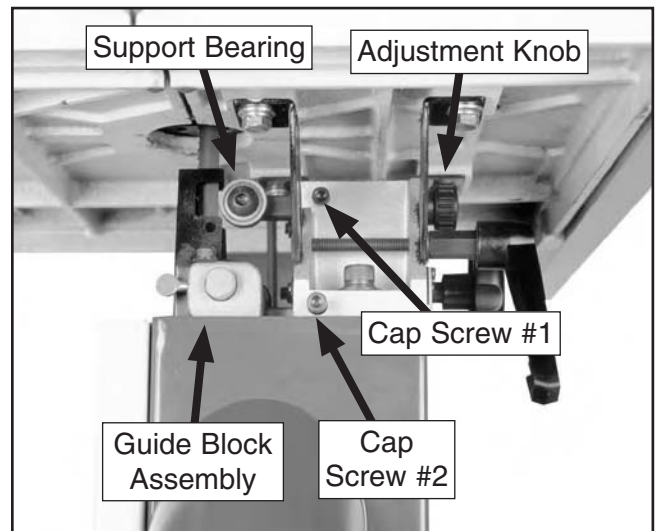
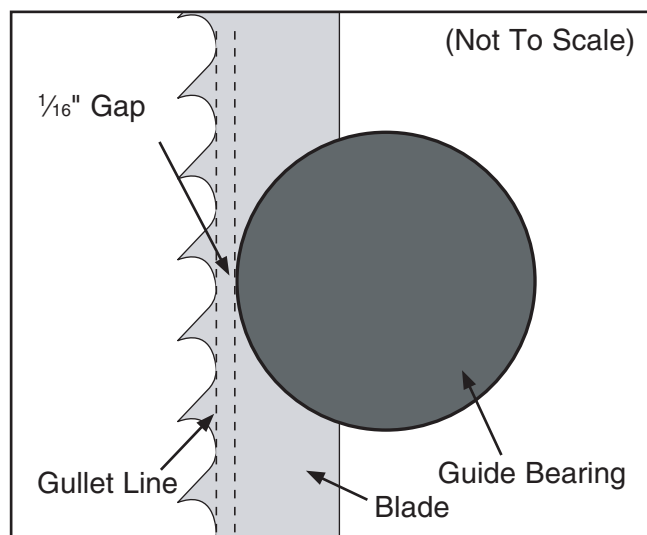

Figure 30. Side of lower blade guide.
Figure 32. Correct guide bearing alignment against the blade.
2. Loosen cap screw #1 shown in **Figure 30** and rotate the adjustment knob to slide the support bearing away from the blade.
5. Loosen cap screw #2 shown in **Figure 30** and adjust the guide block assembly until the front edge of the guide bearings are aligned $\frac{1}{16}$ " behind the gullet line as shown in **Figure 32**. Retighten cap screw #2.
7. Turn the adjustment knob shown in **Figure 30** to slide the support bearing forward against the back edge of the blade and then back the bearing off approximately 0.016" as shown in **Figure 29**. Tighten cap screw #1 to secure the bearing in place.